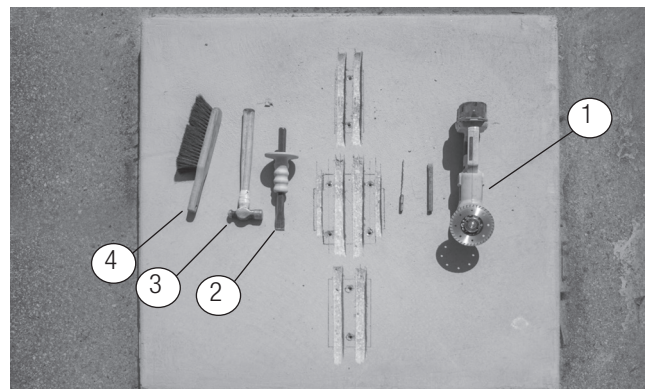

Figure: 4-8
10. Cut the concrete perimeter first and then make small cross cuts. To minimize chisel use, use a diamond concrete cutting wheel. See **Figure: 4-8**.
11. Use diamond concrete cutting wheel and chisel to remove large pieces of concrete after cutting. See **Figure: 4-8**.